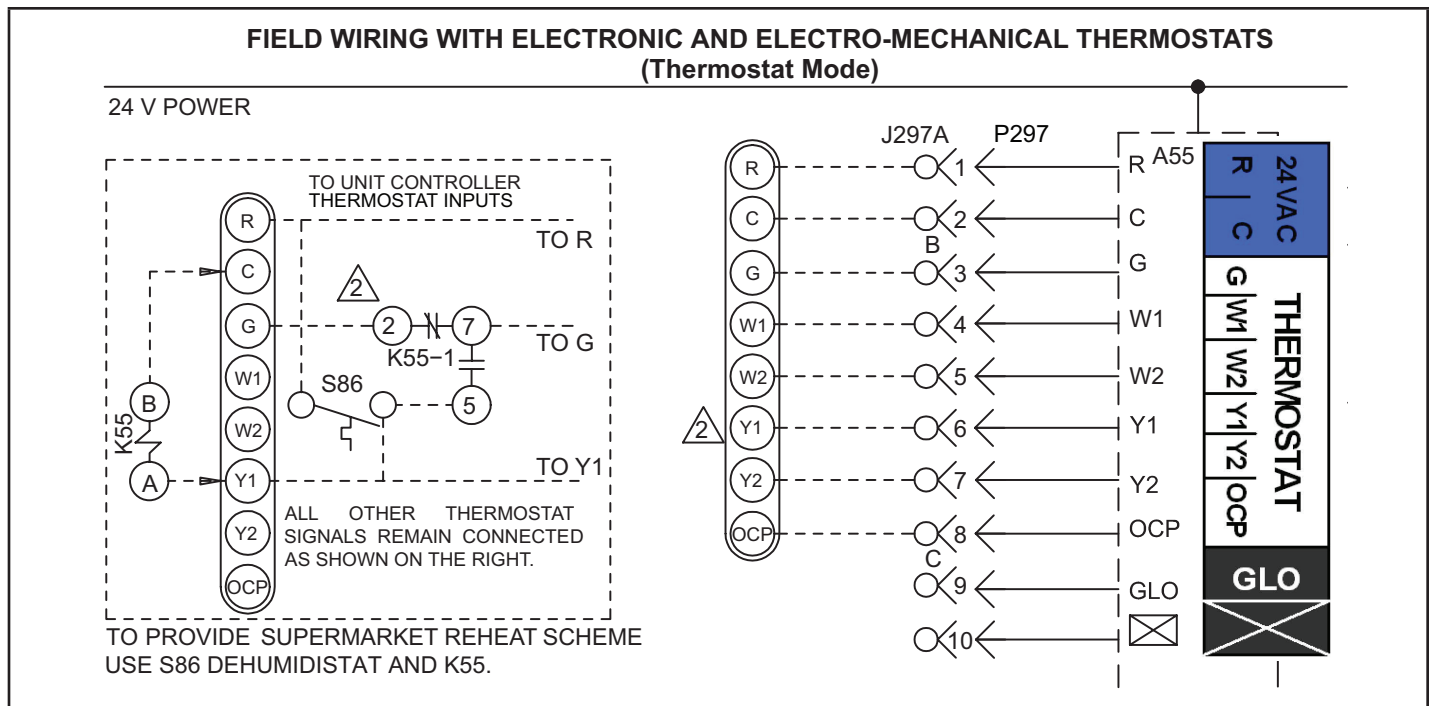
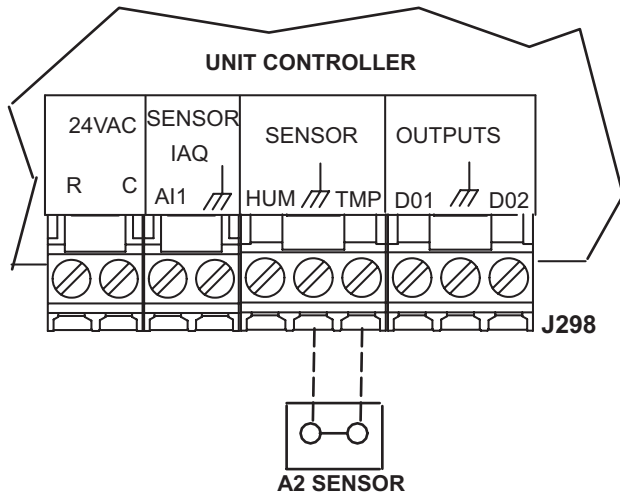
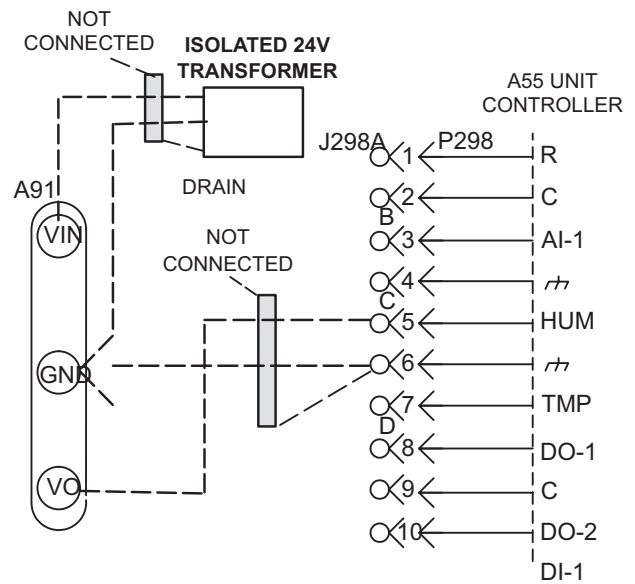

FIGURE 14
FIGURE 15
FIGURE 18
- 4 - Wire as shown in FIGURE 14 for electro-mechanical and electronic thermostats. If using other temperature control devices or energy management systems see instructions and wiring diagram provided by manufacturer.
The Unit Controller will operate heating and cooling based on the Unit Controller internal setpoints and the temperature from the A2 zone sensor. An optional Network Control Panel (NCP) can also be used to provide setpoints. A thermostat or return air sensor can be used as a back-up mode. Make zone sensor wiring connections as shown in FIGURE 15.
- 2 - Make wiring connections as shown in FIGURE 14 for Thermostat Mode or FIGURE 15 for Zone Sensor Mode. In addition, connect either a humidity sensor or a dehumidification input. See FIGURE 16 or FIGURE 18 for humidity sensor wiring or FIGURE 18 for dehumidification input wiring.
Use a local, isolated 24VAC transformer such as Lennox cat #18M13 (20VA minimum) to supply power to RH sensor as shown in FIGURE 18. Use two shielded cables containing 20AWG minimum, twisted pair conductors with overall shield. Belden type 8762 or 88760 (plenum) or equivalent.